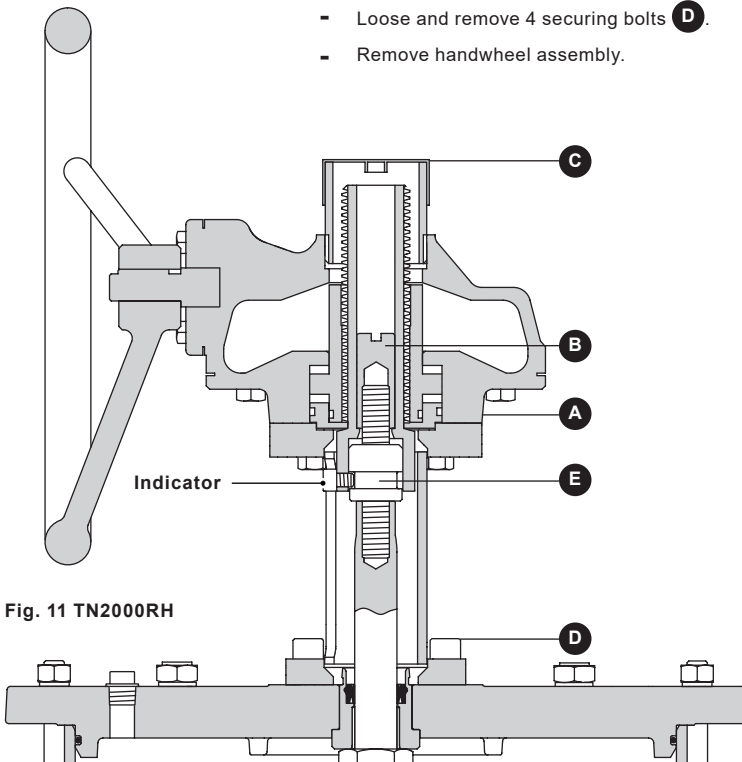

Fig. 11 TN2000RH
- Remove the cover (21) from the actuator, see Figure 11.